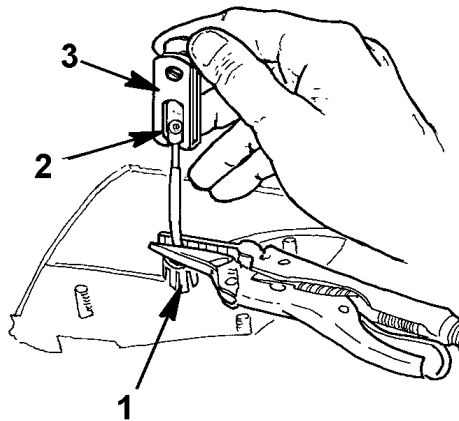

Figure 9: Disconnect Parking Brake Cable From Yoke
9. Disconnect the parking brake cable from the yoke (Figure 9).